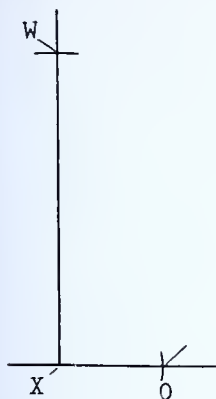

FIG. 296 — Step 8
8. Transfer this distance to the layout as in Fig. 296, at  $x-o^1$ .